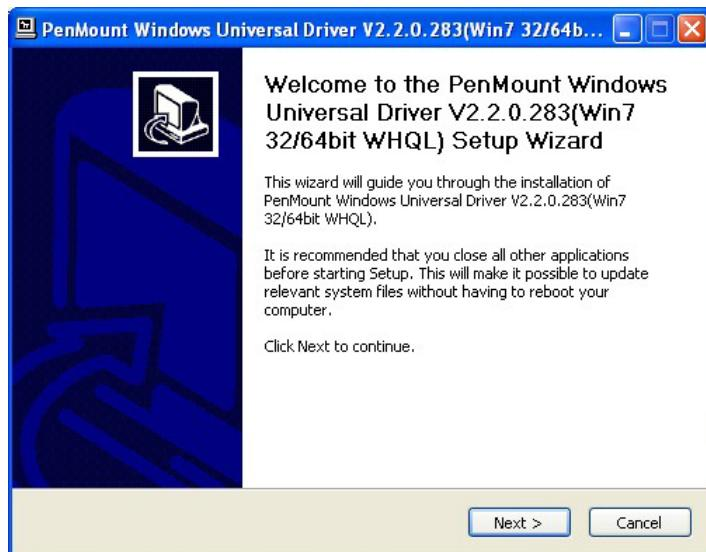

Figure 7-2: Welcome Screen
Step 11: The Welcome screen in **Figure 7-2** appears.